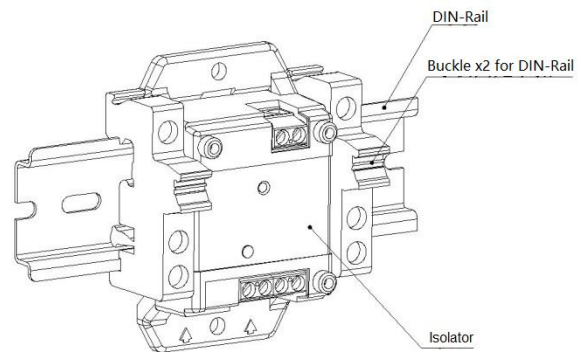

Fig. 2
- 2) The isolator can be mounted on a 35mm DIN-Rail as shown on Fig. 2.